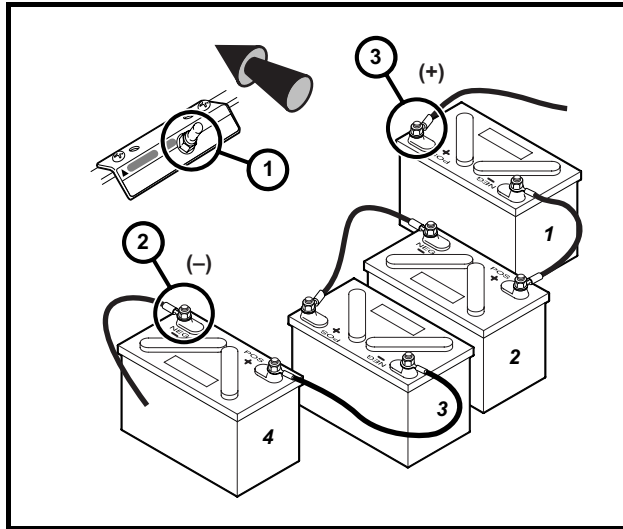

Figure 24-4 IQ System Electric Vehicle - 12-Volt Battery Configuration
When the batteries are fully charged, disconnect the charger DC plug. Wait 20 to 30 seconds and reconnect the DC plug to restart the charger. After 5 minutes, use a multimeter to check and record the voltage of the battery set as well as the individual batteries. Set the multimeter to 200 volts DC. Place the red (+) probe on the positive (+) post of battery no. 1 and the black (-) probe on the negative (-) post of battery no. 4 (**Figure 24-4, Page 24-9**). Record reading. Then set multimeter to 20 volts DC and place the red (+) probe on the positive (+) post and the black (-) probe at the negative (-) post of each battery. Record the readings.
8. Install batteries in the proper orientation (**Figure 24-4, Page 24-9**). Install battery hold-downs. The hold-downs should be tight enough so batteries do not move while vehicle is in motion, but not so tight as to crack or buckle battery case. Tighten to 40 in-lb (4.5 N·m), alternating between hold-down bolts.
9. Install wires in proper sequence (**Figure 24-4, Page 24-9**). Install black wire to negative post of battery no. 4 last. Tighten all connections to 110 in-lb (12.4 N·m). Coat all terminals with Battery Terminal Protector Spray (CCI P/N 1014305) to minimize future corrosion.